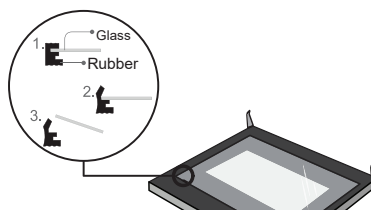

Fig. 6
- After pulling out the inner glass, remove the middle layer of glass as shown in Fig. 6.